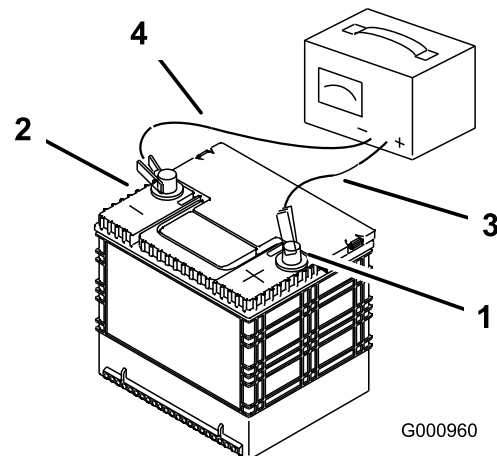

Figure 53
2. When the battery is fully charged, unplug the charger from the electrical outlet, then disconnect the charger leads from the battery posts (Figure 53).